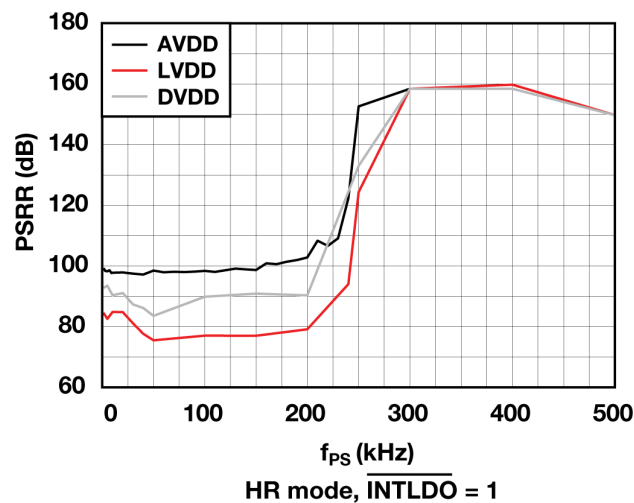

Figure 64. $t_A = 25^\circ\text{C}$, $AVDD = 3.3\text{ V}$, $V_{REF} = 2.5\text{ V}$, HR mode, $\overline{INTLDO} = 1$.
In Section 6.1, I looked at the PSRR for each of the power supplies used by the TI **ADS127L01** (shown again in **Figure 64**). Like most ADCs, the ADS127L01 uses both an analog and a digital supply (AVDD and DVDD, respectively). I chose this device for our discussion because it also requires a third LVDD supply. LVDD directly powers the delta-sigma modulator in the ADS127L01. The LVDD supply can either be provided from an internal LDO (connected to AVDD) or from an external LVDD supply source. As you'll see later, driving LVDD externally with a noisy supply will have the most adverse effect on ADC noise performance.
From **Figure 64**, you can see that LVDD is most susceptible to coupling noise into the ADC output because it has the lowest PSRR of the three supplies. LVDD is most sensitive to noise because it directly powers the delta-sigma modulator, which in turn directly controls the analog-input-to-digital-output conversion process. Comparatively, AVDD powers the remaining analog circuitry, including generating the main bias current, but this has less of a direct impact on the conversion results. Powering the ADC's digital core, DVDD has the least impact on the conversion results because the modulator output is already in binary form when it reaches the digital decimation filter. For devices that require multiple supplies, it's best to prioritize the supply that most directly powers the delta-sigma modulator, which is typically AVDD.
Ultimately, these experiments confirm the results in Figure 64 while reiterating that some supplies—especially the one that feeds the delta-sigma modulator—are more susceptible to power-supply noise than others, and may require special care to maintain a high PSR.
- Frequency planning.** Another technique you can use to mitigate power-supply noise employs frequency planning, either for the switching regulator or your ADC. As discussed at the beginning of Chapter 6 and reiterated in Figure 64, ADCs can exhibit different PSRR characteristics on each supply. Additionally, all ADC supplies will see a large boost in PSRR at frequencies that fall within the digital filter stop band (see Figure 64). In delta-sigma ADCs, the digital filter response repeats at multiples of the modulator frequency (f_{MOD}). Therefore, switching noise may still alias into the ADC pass band if this noise happens to fall near the modulator frequency or any multiple thereof.